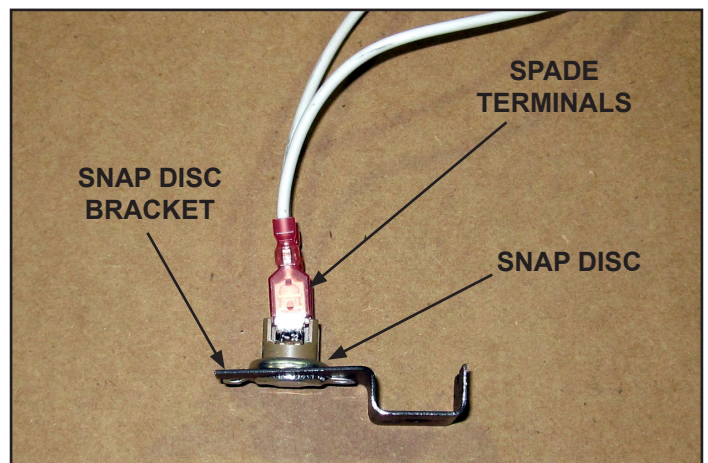

Figure 8.6 - Install Snap Disc
4. Install the snap disc. A snap disc bracket is located in the appliance's component bag. Bend the two spade terminals on the snap disc from a horizontal to a vertical position. Insert the snap disc through the hole in the snap disc bracket and attach the two white wires from the wiring harness to the snap disc. See Figure 8.6.